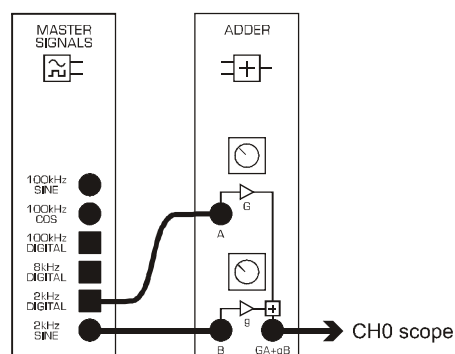

Figure 11: "adjust_the_ADDER" wiring diagram
1. Use patching cords to wire up DATEx blocks according to the wiring diagram in Figure 11.
The AMPLIFIER block on DATEx has one input and one output. This input has variable *GAIN*. Hence the parameter available for programmatic control is the input *GAIN*. This is known as "k". Figure 11 shows the AMPLIFIER block as a hardware block and its corresponding low-level VI block.